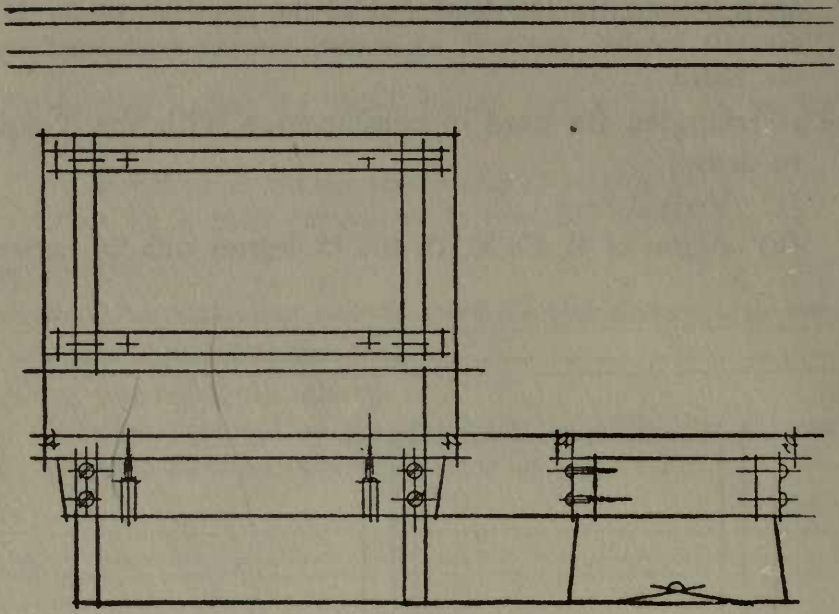

Fig. 6.
- (3) Block in all the diagonal lines, arcs of circles and other details. (See Fig. 6.)